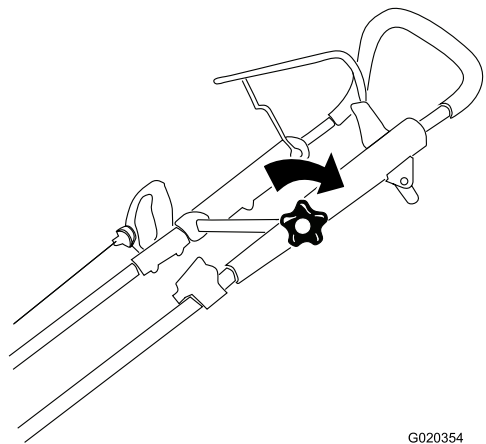

Figure 4
4. Move the upper handle to the desired position and tighten the upper handle knob firmly (Figure 4).